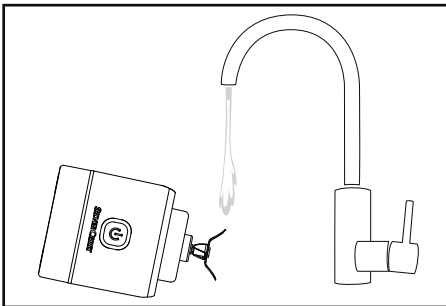

Fig. 2
- ⚠ **CAUTION!** The cross blade ⑤ is very sharp! Clean with care.
- Wipe the motor unit ⑨ off with a damp cloth.
- To remove light soiling, fill the blender jug ④ up to the MAX mark with lukewarm water and a drop of washing-up liquid. Then let the appliance run for about 30 seconds as described above. Let the appliance operate for about 30 seconds as described in the section **Operation**. Then unscrew the motor unit ⑨ and tip the rinsing water out of the blender jug ④.
- Rinse only the cross blade ⑤ carefully, if necessary using a scrub brush, under running water. Make sure that no water flows onto the motor unit ⑨, and do not immerse the appliance in water! Tilt the appliance so that only the cross blade ⑤ is in the water jet (see Fig. 2). Cleaning the appliance immediately after use helps to loosen food remains more easily.